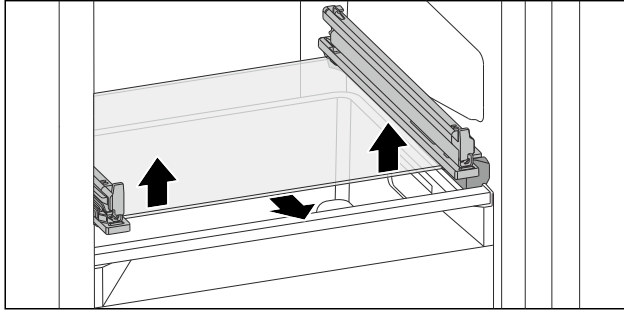

Fig. 199 Tilting drawer glass shelf
- Push glass shelf upwards from below on both sides. (see Fig. 199)